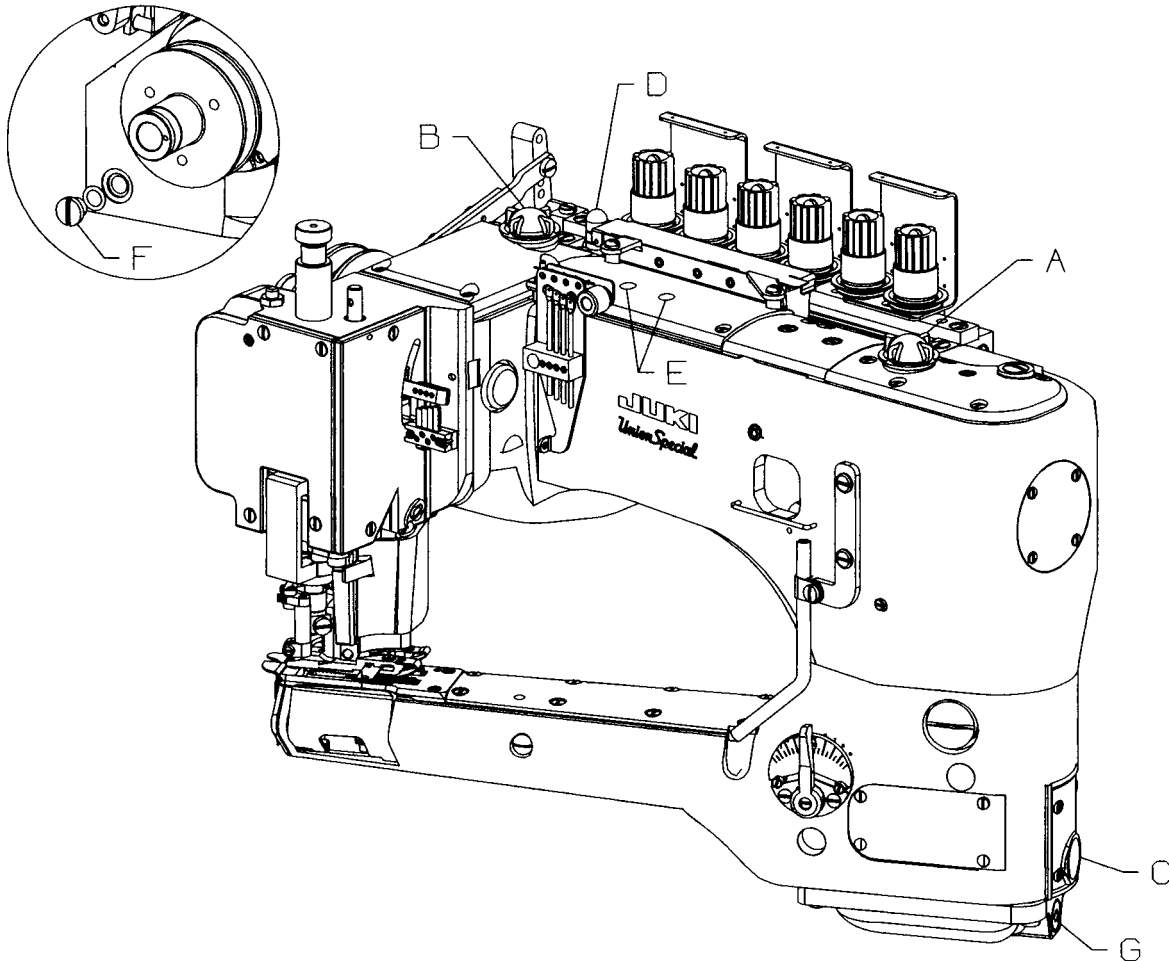

FIG. 1
Referring to Fig. 1, fill the machine at (A) and (B). Oil capacity of class 36200 is 2.5 ounces in the bottom reservoir and 2.5 ounces in the top reservoir. Use a straight mineral oil, Saybolt viscosity of 90 to 125 seconds at 100° Fahrenheit. The oil level is checked at gauges (C) and (D). Maintain oil level between the red lines of these gauges.
Remove screw 22733B (F, Fig. 1 inset) to drain oil from the top reservoir. To drain oil from bottom reservoir remove screw 999-196 (G).